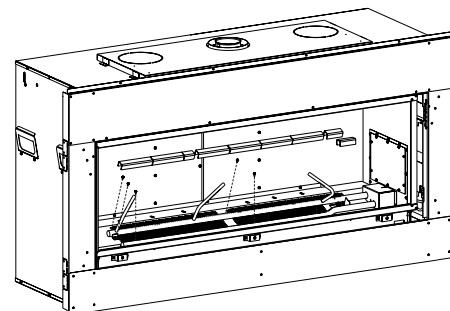

Figure 10
2. Remove front and rear burner. See Figure 10.